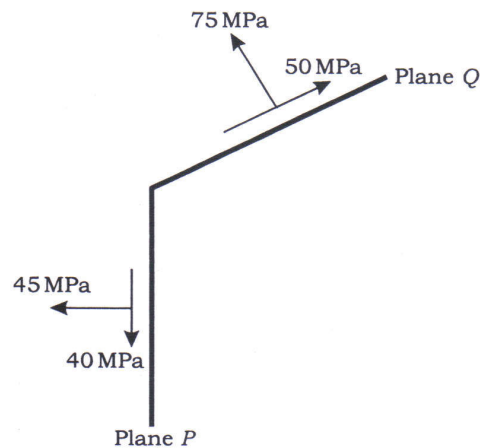

Fig. 3(b)
- (c) Bending moment and shear force diagrams for a plane frame (at a particular beam level) have been shown in Fig. 3(c). An additional torsion of 100 kN-m is also acting on this continuous beam. Design the beam portion 'BC' only by working stress method for total maximum bending moment at support and at midspan, and for corresponding total maximum shear force. Sketch the reinforcement section at support and at midspan only. The following parameters may be used :